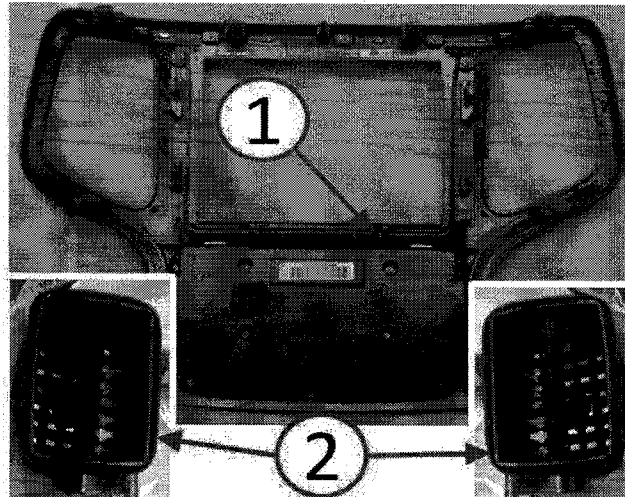

**Fig. 1 ICS Button Content Inspection**
1. Inspect the ICS button content for the Front & Rear Park Assist and Forward Collision Warning buttons (Fig. 1).
- a. Buttons missing, only two buttons in lower row (1) >>> Proceed with Repair Procedure.
- b. Buttons present, four buttons in lower row (2) >>> Repair Procedure does not apply, return vehicle to customer.